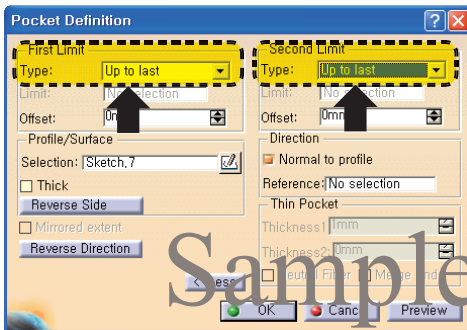

Fig 6-44 Limits Options
10. Press the **More** button in the **Pocket Definition** dialog box. Set the **First limit** and the **Second limit** as shown in Fig 6-44 and press **OK**.